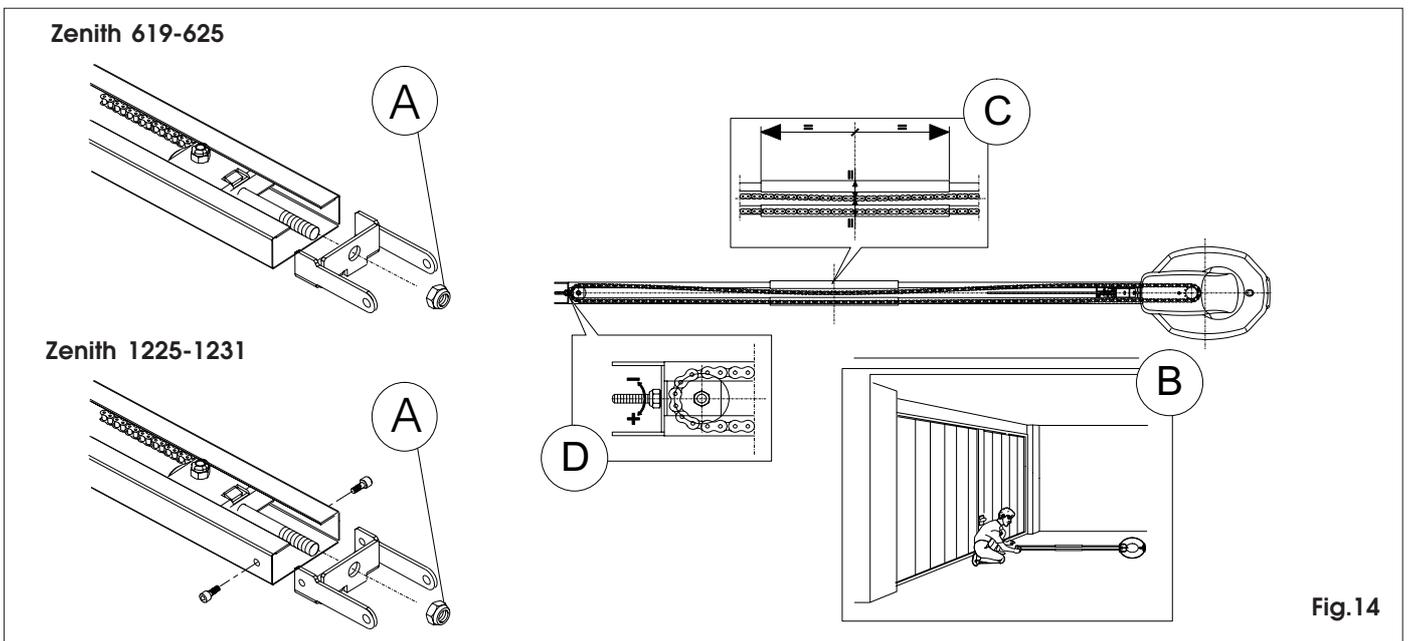

Fig.14
6.10 Fit the flange in the sliding guide, securing it with the two supplied M5 Allan screws (fig. 14), and apply tension to the chain with the appropriate nut (fig.14 ref.A).
6.11 Position the operator on the ground, vertically respect to floor (fig. 14 ref. B).
6.12 Check chain tension, making sure that these distances are equal (as shown in fig. 14 ref. C) : lower chain - upper chain; upper chain - upper rail joint.
6.13 Adjust chain tension if necessary, using the nut as indicated in fig. 14 ref. D.